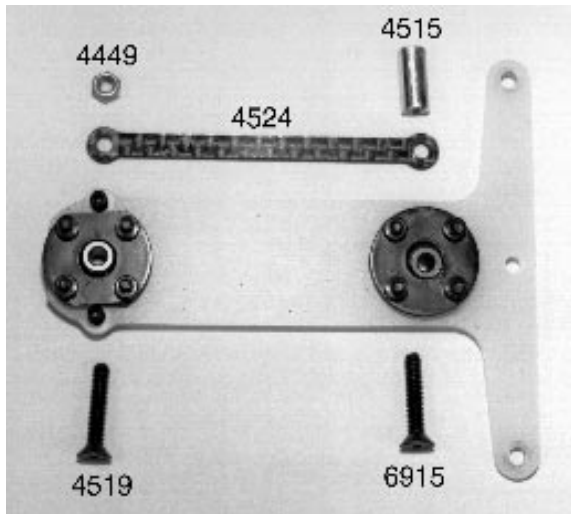

Fig. 26
□ **Figs. 26 & 27** Still working with bag #2 remove the #4524 graphite T-bar brace, one #4519 4-40 x 9/16" FHSScrew, one #6915 4-40 x 5/8" FHSScrew, one #4449 4-40 small aluminum locknut, and the #4515 aluminum dampener center post. From the bottom of the chassis install the #4519 screw into the front T-bar mounting hole and the #6915 screws into the back T-bar mounting hole. Place the T-bar assembly over the two screws as shown. Now place the #4524 graphite T-bar brace over the two mounting screws. Thread the #4449 locknut onto the front mounting screw to secure the front T-bar pivot to the chassis. Now take the #4515 center post and thread it onto the #6915 screws coming up through the rear pivot ball. Go ahead and tighten both pivot balls against the chassis. **Note:** You may want to hold the #4515 aluminum center post with your needlenose pliers while you tighten the #6915 rear mounting screw.